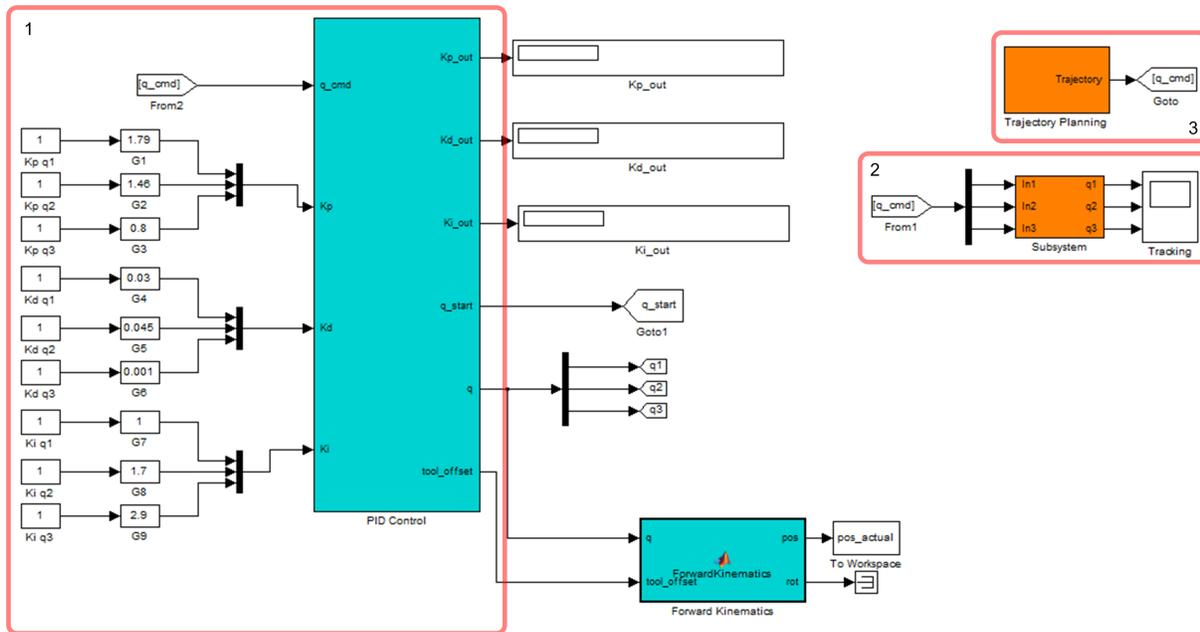

Figure 6.4: Joint space trajectory follower model
1. Open **Teach_Pendant_Joint_Space.mdl**, shown in Figure 6.4.